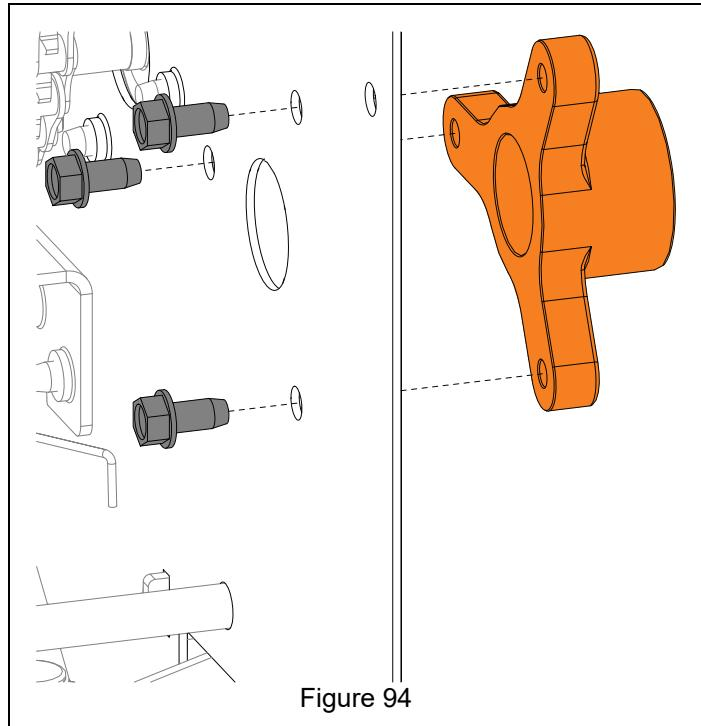

Figure 94
1. Secure bushing to frame exterior with three tapping screws from inside frame. See Figure 94.